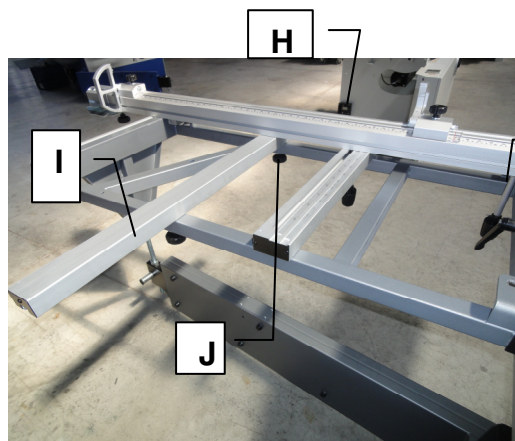
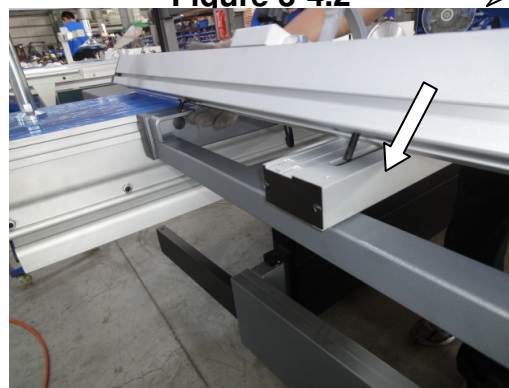

Figure 3-4.2
Figure 3-4.2b
2. Fit square pipe **I** (Fig. 3-4.2) to **R** (Fig. 3-4.1a) of crosscut frame. And tighten knob **J**(Fig. 3-4.1b & 3-4.2) for fixing on crosscut frame.
4. Fit crosscut fence in the groove **H** (Fig. 3-4.2) and holes on crosscut frame (as Fig 3-4.2b)